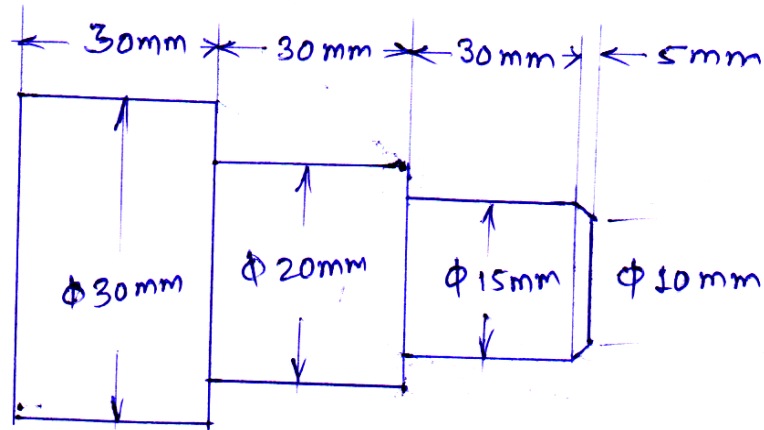

Figure 3.
- b) Write a part program for CNC lathe machine using FANUC controller for part showing in figure 3. Assume suitable data. Work size  $\phi 30 \times 95\text{mm}$ . [10]